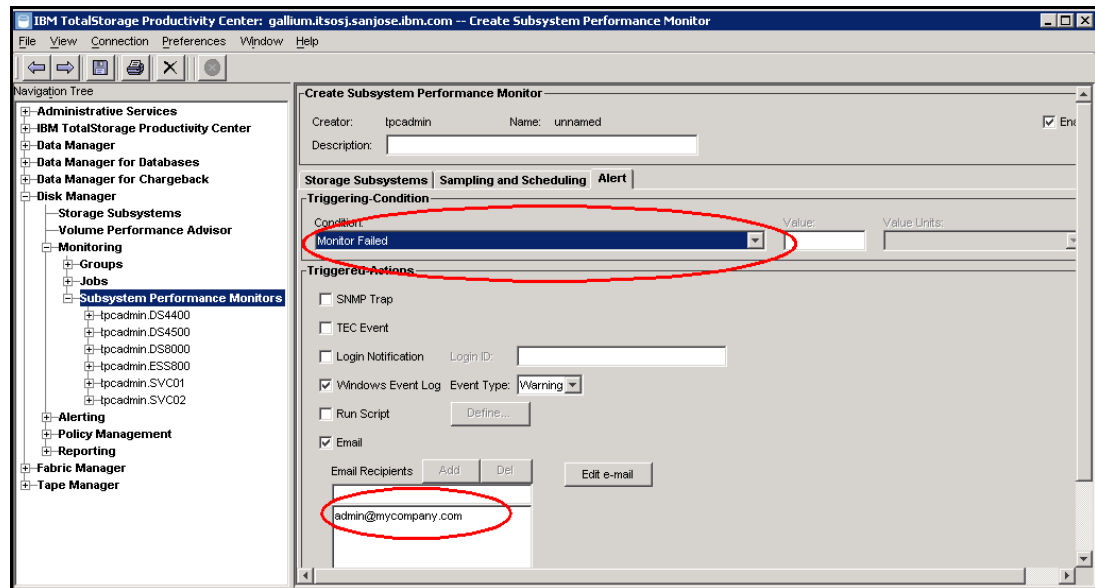

Figure 7-25 Alert tab
3. Go to the Alert tab to select what actions should be triggered should the monitor fail, as shown in Figure 7-25.